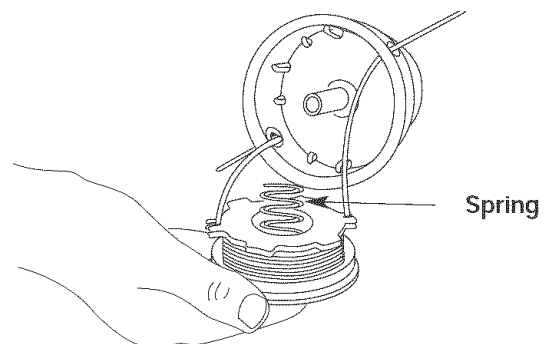

Fig. 23
- Insert the ends of the line through the eyelets in the outer spool and place inner reel with spring inside the outer spool (Fig. 23). Push the inner reel and outer spool together. While holding the inner reel and outer spool, grasp the ends and pull firmly to release the line from the holding slots in the reel.
5. Insert the ends of the line through the eyelets in the outer spool (Fig. 23).